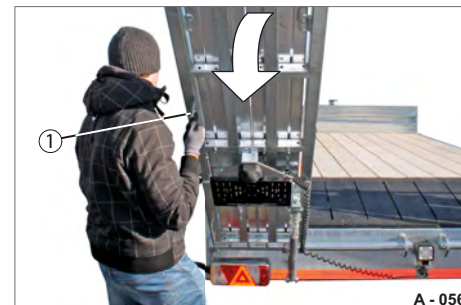

Fig. 90 Lowering the ramp
- Pull the ramps - individually one after the other (Fig. 90/1) - down.